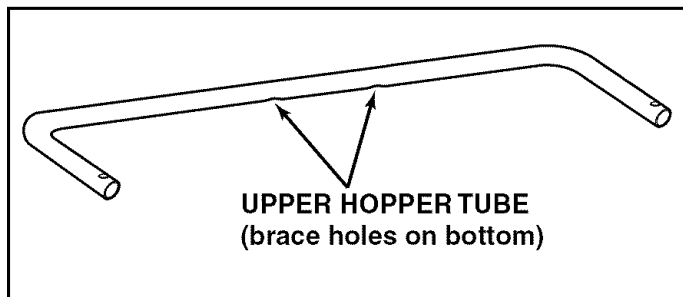

FIGURE 8
- Turn the upper hopper tube so that the middle brace holes face down as shown in figure 8.